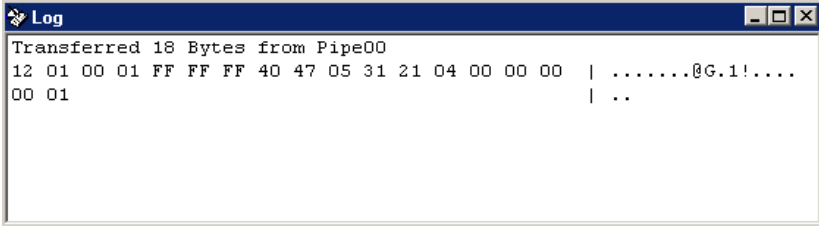

Figure 9.5: USB Request Log
- Figure 9.5 below shows the contents of the **Log** window after a successful **GET_DESCRIPTOR DEVICE** request.